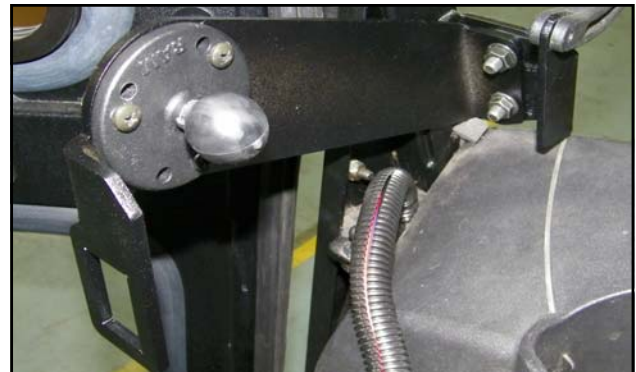

Fig. 2.2 (Install Driver Side Bracket)
- 2.2** Install the driver's side heater bracket per Figure 2.2. Note: the driver's side bracket includes a rectangular cutout for the switch